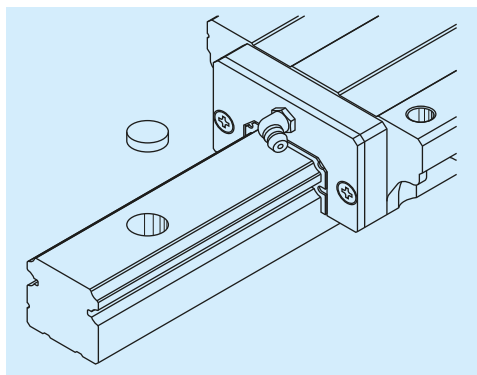

Fig. 7.4
(3) Bolt-hole caps to plug the bolt holes for rail mounting
- After the rail is mounted to the machine base, a bolt-hole cap is used to plug the bolt hole to prevent foreign matter from clogging up the hole and from entering into the slide (**Fig. 7.4**).